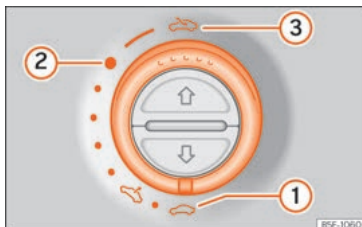

Fig. 15 On the internal cover of the roof: rotate the button to open and close.
- Open: turn the switch to position » » » Fig. 15 ③.
- Comfort position: turn the switch to position » » » Fig. 15 ②.
- Close: turn the switch to position » » » Fig. 15 ①.